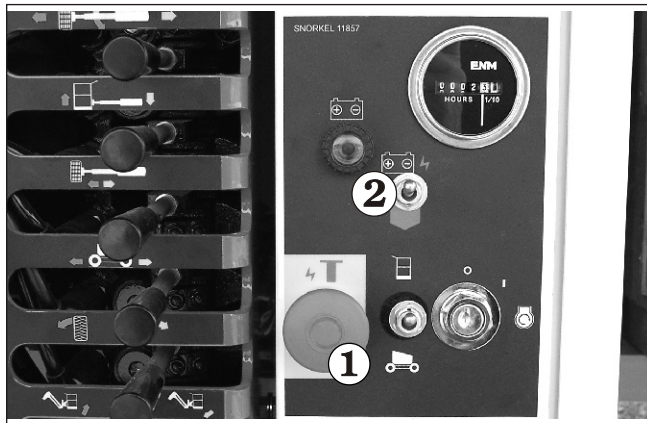

Figure 3.1—Ground Controls
Press the large red **EMERGENCY STOP** (refer to Figure 3.1 ①) button in and the entire machine stops, the engine turns off, and nothing moves. This button must be out (on) to control the SP (pull the button and it will pop out).
Operate the emergency power switch ② (refer to Figure 3.1, 3.2 and 3.3) to activate the emergency power system.